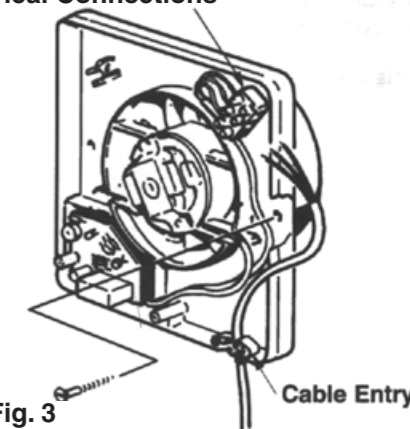

Fig. 3
3. Make the electrical connections to the terminal block and ensure cable is adequately retained (see fig. 3).